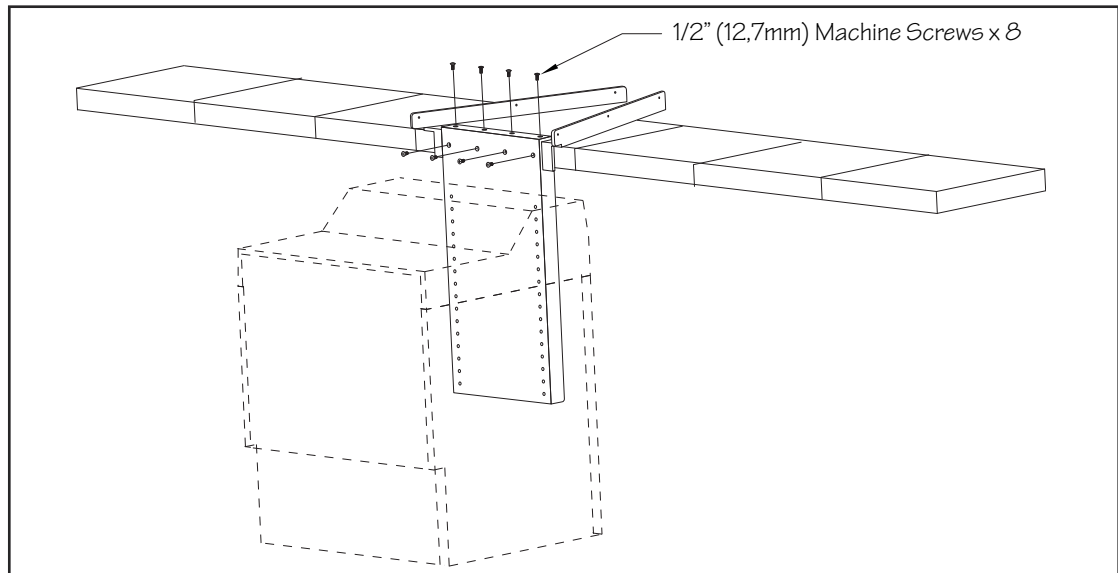

Fig. 9.2
- 9.3 This next step is best done with two people. Carefully lower the Fastlane into the pool. Align the holes in the bracket with the holes in the hose cover tray. Use the provided 1/2" (12,7mm) screws to attach the top screws first and then the vertical screws next (total of 8 screws) (Fig 9.2).